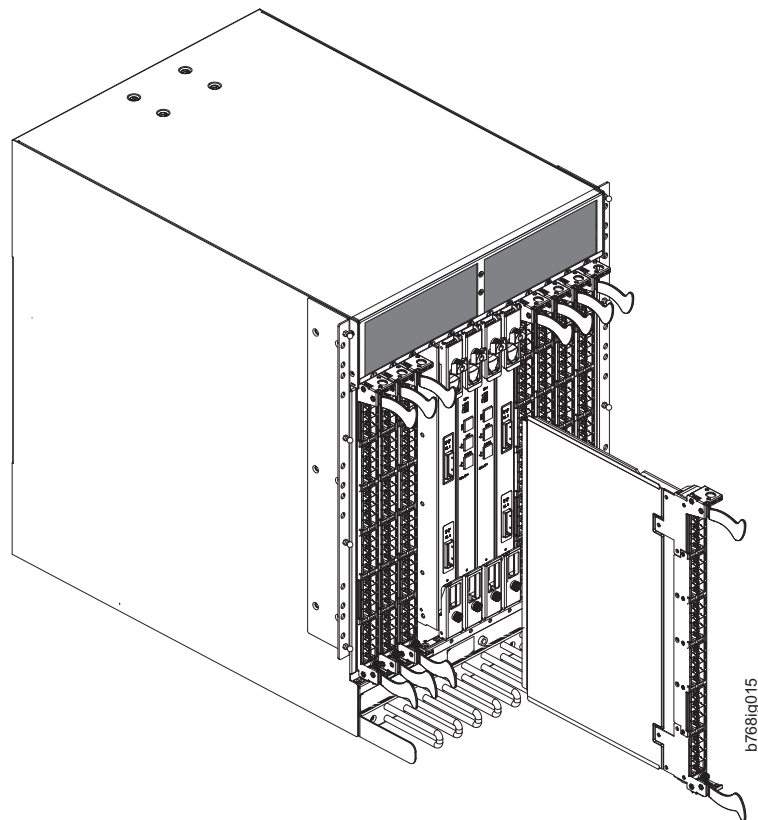

Figure 29. Port and application blade removal and installation (FC8-48 port blade shown as example)
- **For FC8-16, FC8-32, FC8-48, FC8-64, and FC10-6 port blades and the FX8-24 and FCOE10-24 application blade:** Unscrew the two thumbscrews from the top and bottom ejectors on the blade (see Figure 29) using the Phillips screwdriver. Unscrew the top thumbscrew until it pops out. This initiates a hot-swap request.
- **For FC8-16, FC8-32, FC8-48, FC8-64 port blades and FX8-24 and FCOE10-24 application blades:** Open the ejectors by pulling them toward the center of the blade face. Pull the blade out of the chassis using the ejectors (Figure 29).